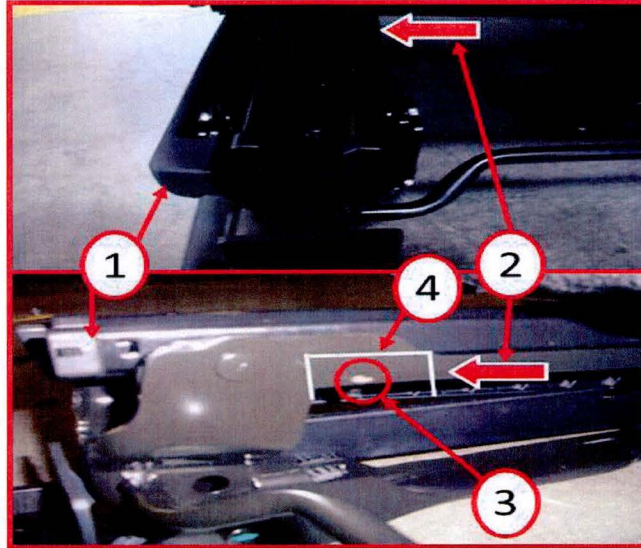

Fig. 2 Apply Nye Grease
3. Apply Nye grease to the inboard side of the outboard rail on the tip slide mechanism in the specified area shown in (Fig. 2).